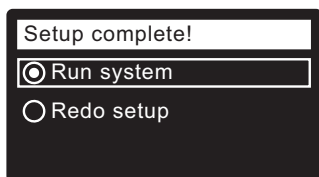

FIG. 29
16. Press the SELECT (O) button. The screen will show “Setup complete!” (See Figure 29).
17. If, at this point, you want to go back and make changes, press the DOWN (▼) button to scroll to **Redo setup**, then press the SELECT (O) button twice to repeat the “wizard” screens.
18. If no changes are desired, make sure **Run system** has a dot next to it (See Figure 29) and press the SELECT (O) button. The unit begins normal operation.